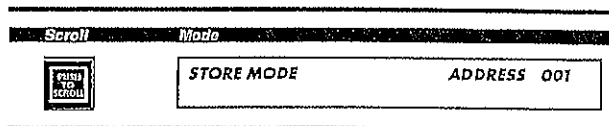

Figure 2:
4. Press the Scroll button until the lower display shows the Store Mode (see Figure 2).